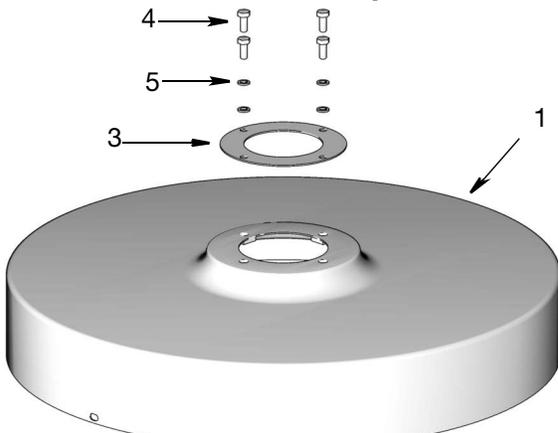

FIG. 3
2. Remove screws (4) and washers (5) from drum cover (1) (FIG. 3). Save these parts. They will be reused to secure the pump to the drum cover for reassembly.
3. Place drum cover (1) on drum (a). For 120 pound models only, tighten thumb screws (6) securely (FIG. 3).
5. Verify gasket (3) is in place on top the drum cover and laying flat (FIG. 3, page 3). Install pump down tube through opening in the center of the gasket (3) and drum cover (1) and into drum.